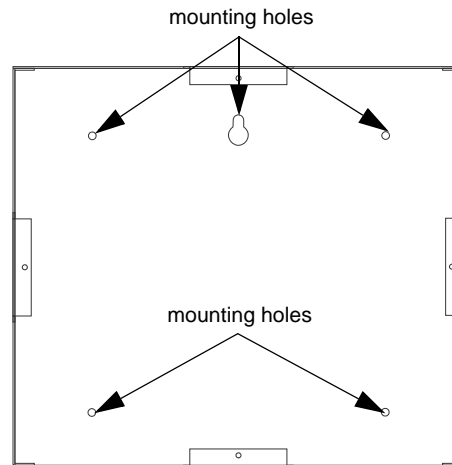

Figure 4.14 6855 Backbox Mounting
2. Mark and pre-drill hole in the wall for the center top keyhole mounting bolt. Refer to Figure 4.14 for mounting hole locations.